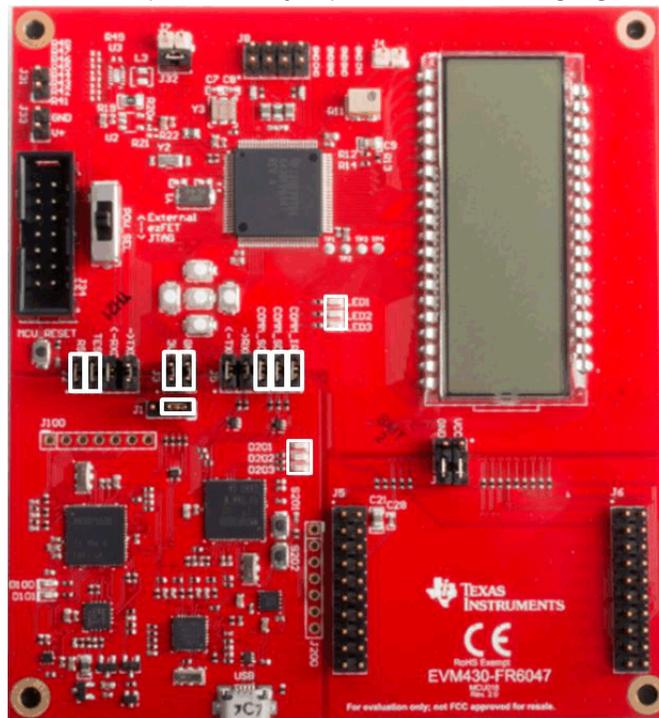

Figure 2-2. EVM430-FR6047 Jumper Settings
2. Connect the jumpers as shown in Figure 2-2. The COMM_IRQ, COMM_SDA, and COMM_SCL jumpers on the J5 header are required for communication with the GUI. TEST and RST jumpers on J2 are required to program the board. The POW_SEL switch should be in the middle position (ezFET), J1 in the right position, and both J3 jumpers set to use USB power. The jumper locations are highlighted in Figure 2-2.